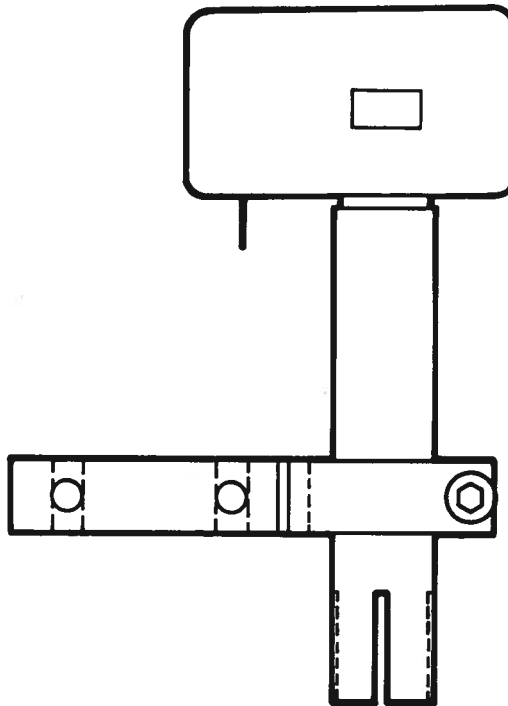

Figure 3.4 EIES Sensor
3.2 Installing Sensors and Feedthroughs (Figure 3.4)